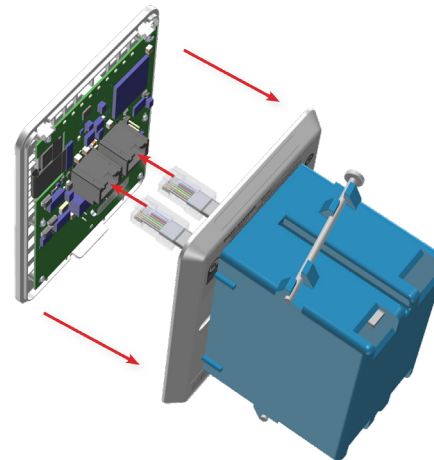

Figure 5. Connect Ethernet Cables
5. See Figure 5. Insert the Ethernet cables into the appropriate ports on the front panel.